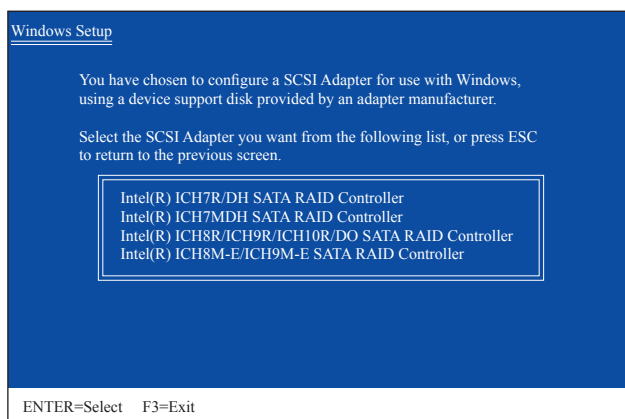

Figure 2
Insert the floppy disk containing the SATA RAID/AHCI driver and press <S>. Then a controller menu similar to Figure 2 below will appear. Select **Intel(R) ICH8R/ICH9R/ICH10R/DO SATA RAID Controller** and press <Enter>.